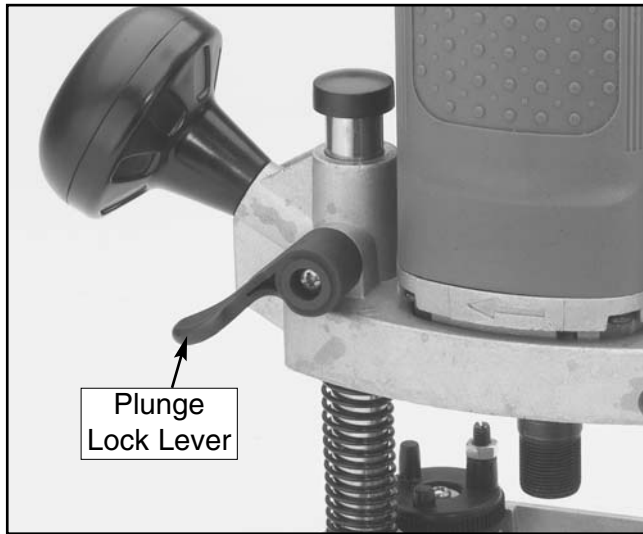

Figure 9. Plunge lock lever.
3. While holding the desired depth, press the plunge lock lever located on the right back corner of the upper router base as shown in **Figure 9**. This will lock the router in the present position. Recheck to make sure the bit is still extending below the base plate the desired amount.